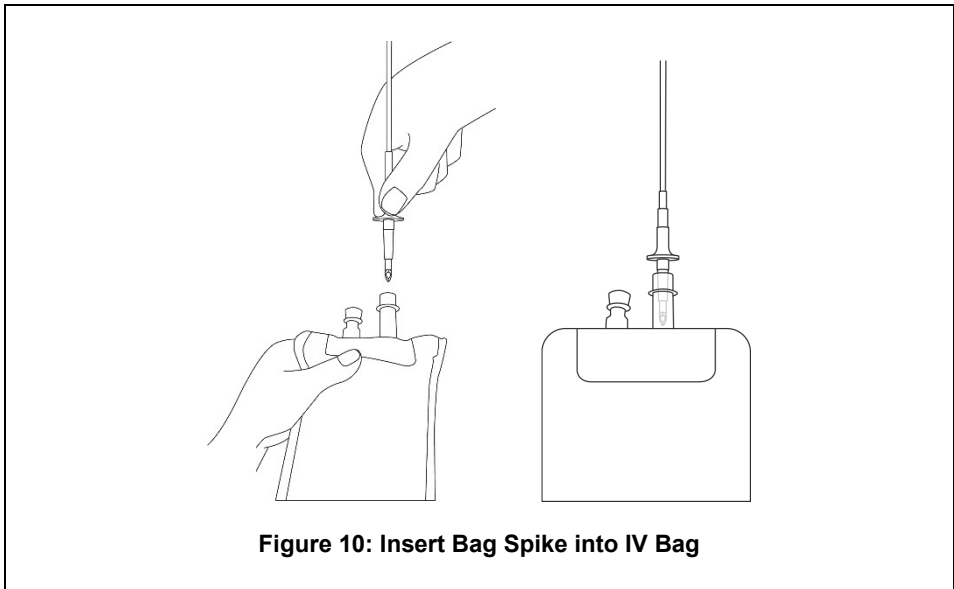

Figure 10: Insert Bag Spike into IV Bag
7. Push and twist the bag spike into the administration port of the IV bag. See Figure 10.